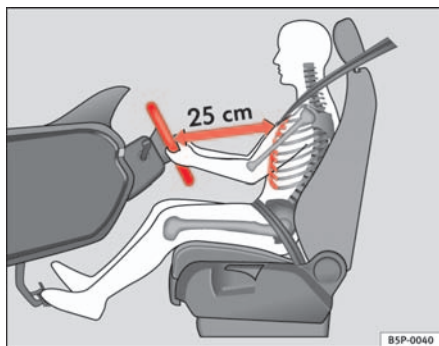

Fig. 1 The proper distance between driver and steering wheel
- Adjust the steering wheel so that there is a distance of at least 25 cm between the steering wheel and the centre of your chest ⇒ **fig. 1**.
<ul style="list-style-type: none"> • An incorrect sitting position of the driver can lead to severe injuries. • Adjust the driver's seat so that there is at least 25 cm distance between the centre of the chest and the hub of the steering wheel ⇒ page 9, fig. 1. If you are sitting nearer than 25 cm, the airbag system cannot protect you properly. • If your physical constitution prevents you from maintaining the minimum distance of 25 cm, contact a qualified workshop. The workshop will help you decide if special specific modifications are necessary. • When driving, always hold the steering wheel with both hands on the outside of the ring at the 9 o'clock and 3 o'clock positions. This reduces the risk of injury when the driver airbag is triggered. • Never hold the steering wheel at the 12 o'clock position, or in any other manner (e.g. in the centre of the steering wheel). In such cases, you may sustain injuries to the arms, hands and head. • To reduce the risk of injury to the driver during sudden braking manoeuvres or an accident, never drive with the backrest tilted far back! The airbag system and seat belts can only provide optimal protection when the backrest is in an upright position and the driver is wearing his or her seat belt properly. The further the backrests are tilted to the rear, the greater the risk of injury due to incorrect positioning of the belt web or the incorrect sitting position! • Adjust the head restraint properly to achieve optimal protection. ■